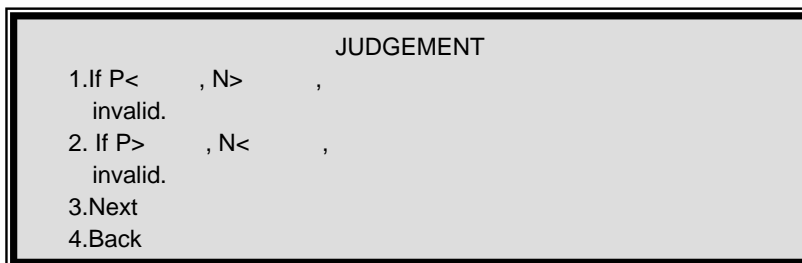

Fig. 12: Invalidity Judgment
2. No (means no shaking speed) is set as default in the instrument. If you needn't shake, please press **Enter** key to go into the sub menu (Fig. 12).